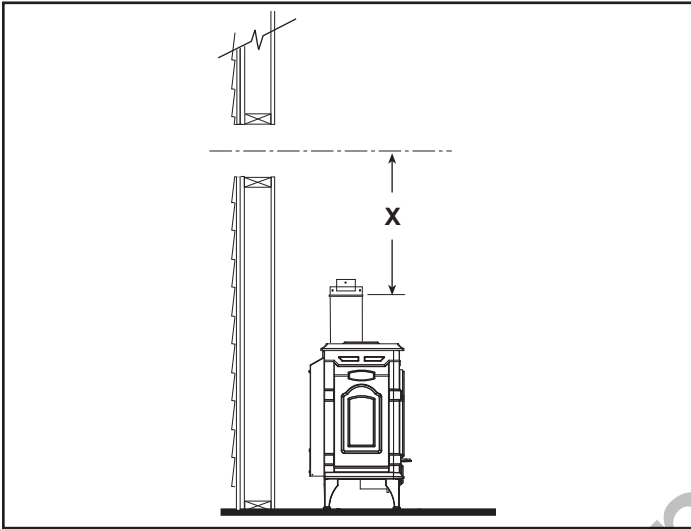

Figure 24 - Determine the vertical pipe length.
4. **For Hearth & Home Technologies Vent Pipe only:** If necessary, measure to determine the vertical length (X) of pipe required from the adapter pipe to the wall cutout centerline, including a 2" (51mm) overlap at the joint. (Figure 24) use a hacksaw or tin snips to trim the pipe as needed.